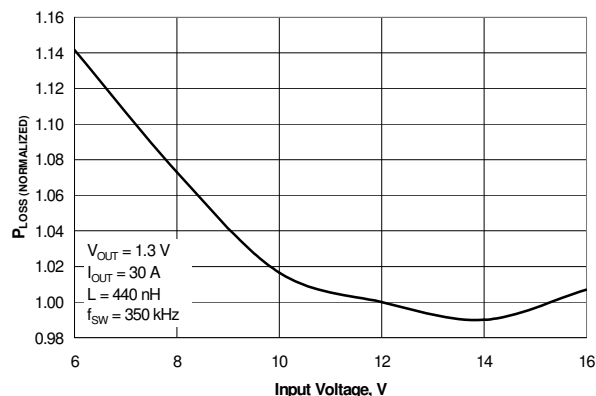

Figure 10. Normalized Power Loss vs. Input Voltage
* May be operated at lower input voltage. See figure 10.